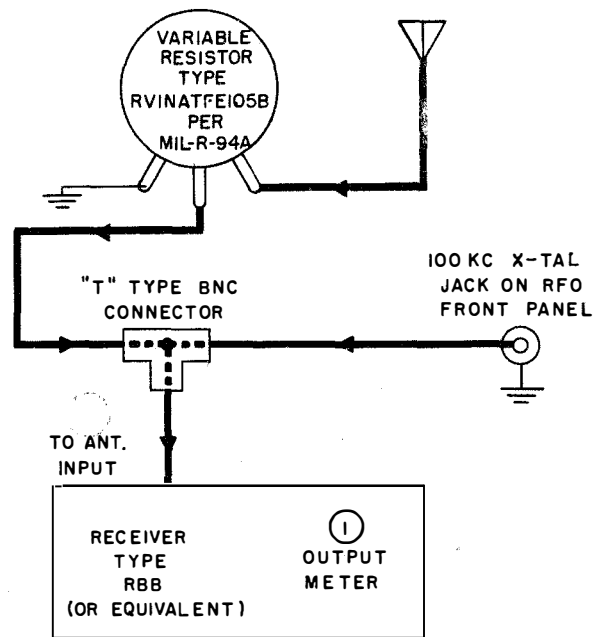
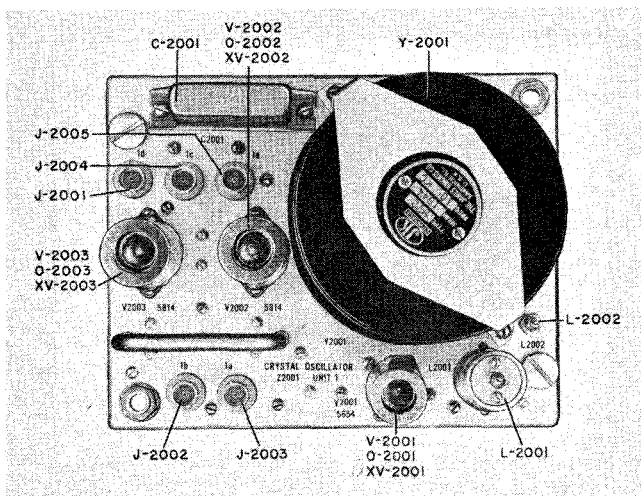

Figure 7-13. RFO Frequency Check, Test Setup
Figure 7-12. RFO, Unit 1 (Z-2001), Top View
If the oscillator tube V-2001 (5654) is operating, tube V-2002A (5814) is probably at fault. If tube V-2001 (5654) is not operating, check the tube and circuit (using the voltage and resistance chart, figure 7-11) and replace the defective component. Figure 7-123 is the schematic and figure 7-124 is the wiring diagram. Components in unit 1 are identified in figures 7-12 and 7-14.
(1) ELECTRICAL ADJUSTMENTS.—Only one adjustment should be made on unit 1. The top slug of inductance L-2001 (figure 7-12) should be adjusted when the output frequency of unit 1 is not 100 kc and whenever tube V-2001 (5654) is replaced.
*Step 4.* Connect a coaxial cable from 100 KC X-TAL jack on RFO front panel to the "T" type BNC connector (see figure 7-13) and terminate connector to the receiver antenna input.
*Step 6.* Connect the ship's receiving antenna with a variable resistor type RVINATFE105B per MIL-R-94A or equivalent in series, to the type "T" connector as shown in figure 7-13.
*Step 8.* With connections made as indicated in figure 7-13, adjust L-2001 on unit 1 (Z-2001) of the RFO, for a zero beat indication. L-2001, on unit 1, is accessible by extending the RFO drawer all the way out and cheating the RFO interlock. Refer to figure 7-12 for location of L-2001.